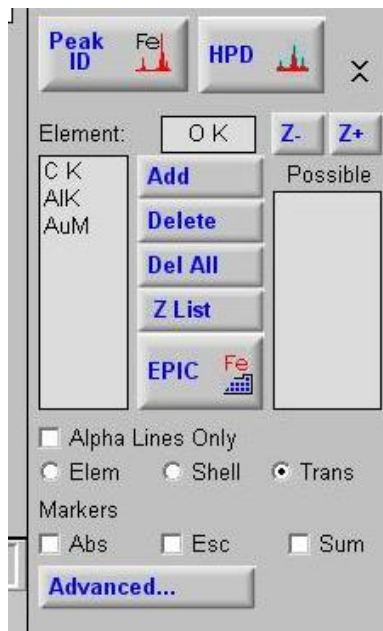

Figure 38. Expanded Peak ID window showing the Element box and the Delete button.
- Delete the unwanted elements from the Element box by highlighting them and clicking the adjacent Delete button. (Figure 38) This action selects the elements you want to display in the line scan element intensity graph by throwing out the ones you don’t want.